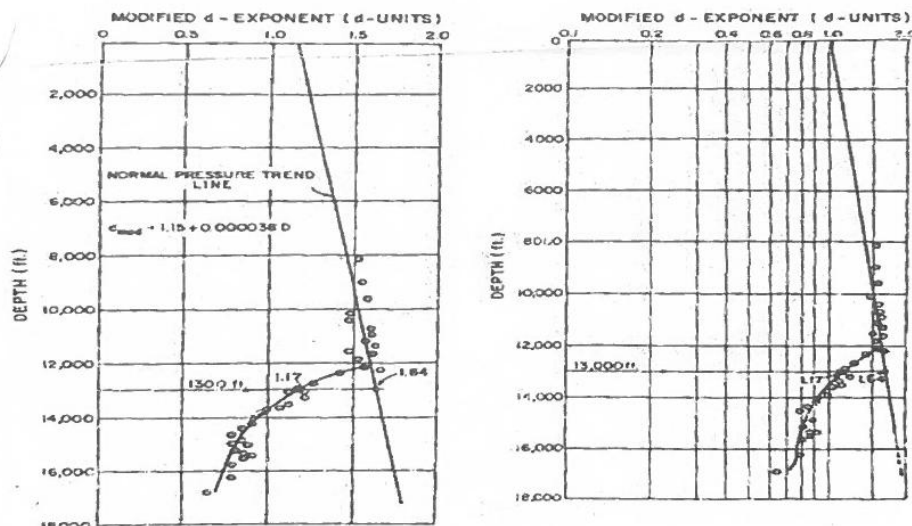

Fig 1
b. Given dexp vs. depth as shown in Figure 1 below. Estimate the formation pressure at 13,000 ft using Rehm and McClendon, and the Zamora correlation. (5 MARKS)